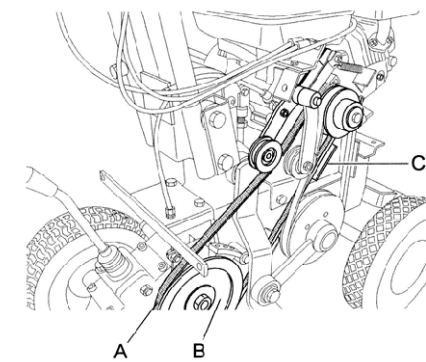

Fig. 8
-Then remove the forward control belt from the lower pulley by turning the belt anticlockwise (Fig. 8 Ref. A e B)
-Afterwards check that the belt is positioned and working correctly using the relative forward control lever. When this lever is lowered and the belt is at maximum tension, the distance between the belt and the relative belt guides (Fig. 8 Ref. C) should be approximately 2 mm.